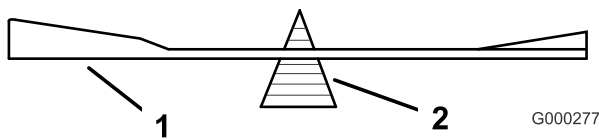
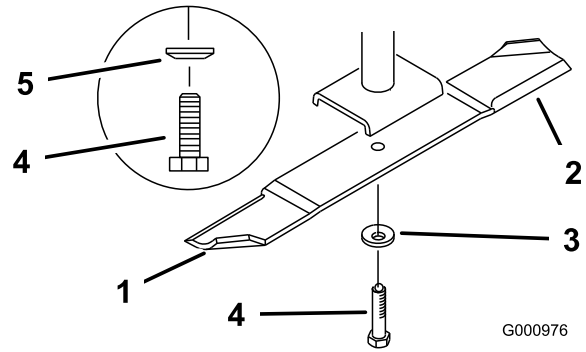

Figure 92
Figure 93
2. Remove the blade bolt, spring disk and blade from the spindle shaft (Figure 93).
2. Check the balance of the blade by putting it on a blade balancer (Figure 92). If the blade stays in a horizontal position, the blade is balanced and can be used. If the blade is not balanced, file some metal off the end of the sail area only (Figure 93). Repeat this procedure until the blade is balanced.
1. Install the blade onto the spindle shaft (Figure 93).
2. Install the spring disk and blade bolt. The spring disk cone must be installed toward the bolt head (Figure 93).